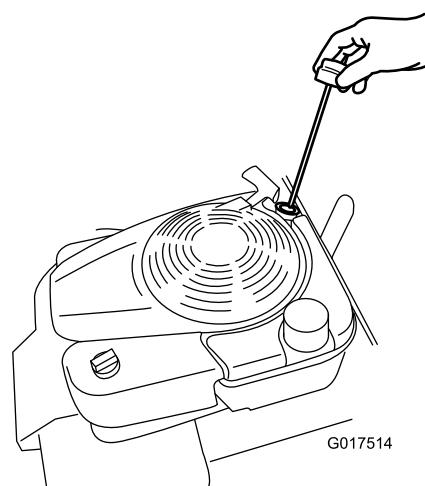

Figure 12
- Retirez la jauge (Figure 12).